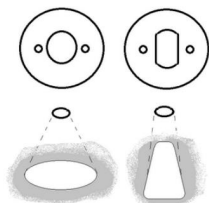

Fig. 2
- Choose the required bezel and lens according with the light output pattern required, see Fig. 2